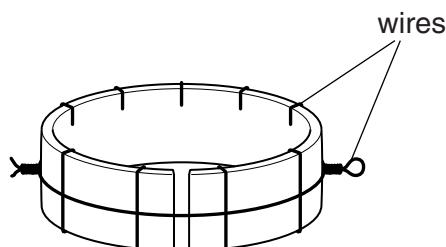

Fig. 5
- 10 Fig. 5 gives details of a copper strip ready for soldering to create a ring.